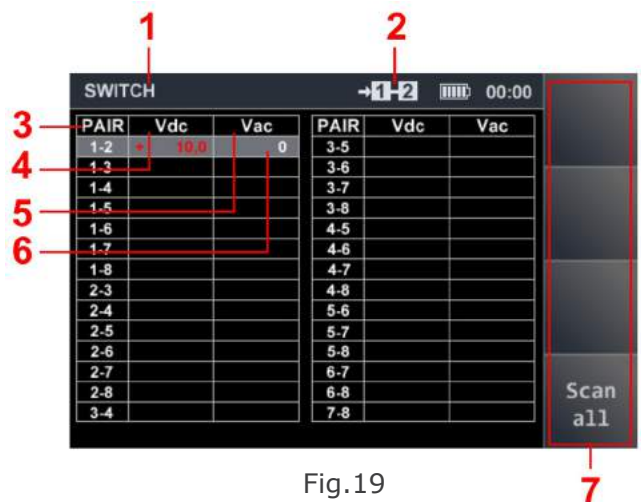
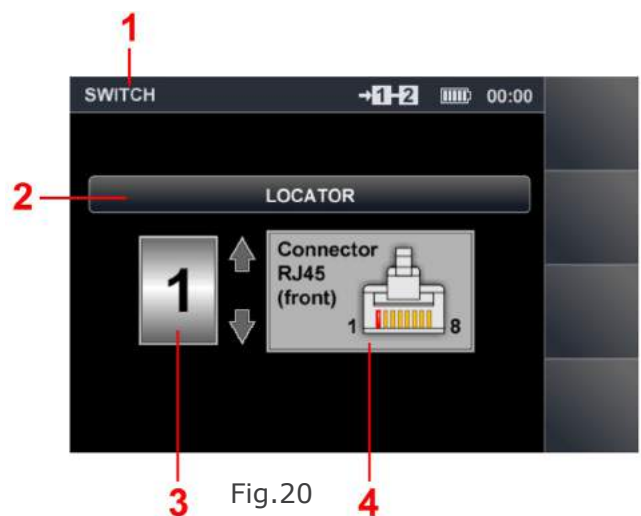

Fig.19
Fig.20
To activate this sub-mode from the “SWITCH” mode screen, press “MODE”. The sub-mode menu (Fig.19) will appear on the screen. In the list of wire pairs, the one selected in the main menu will be highlighted by default. Voltages on these two wires will be measured, and the results shown in the table. Measurements on other two-wire combinations will not be performed.
- The figures in Fig. 19 represent:
Use the arrow keys to navigate the table; the number of the selected wire pair is indicated top of the screen (2, Fig.19). To exit the sub-mode to the "SWITCH" mode screen, press "MODE" or "ESC". The pair of wires highlighted with the cursor before exiting, will remain selected.
The screen will change to "LOCATOR" (Fig.20), and the test signal generator will turn on automatically.
In Fig.20 the numbers represent:
Set the wire number using the \uparrow and \downarrow keys. The selected wire number will be shown in the window (3, Fig.20) and in the graphics (4, Fig.20). The selected pair value in the corresponding field (2, Fig.19) will not change. To exit the mode to the "SWITCH" screen, press "ESC". The test signal generator will stop. All the settings made in the "SWITCH" mode will be saved.